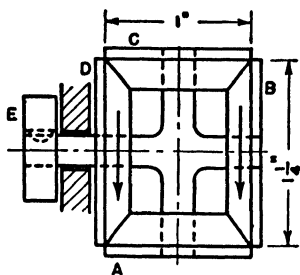

Fig. P 11.19
11.19. The mechanism shown in Fig. P 11.19 is similar to that of Fig. 8.9. Cone *B* turns 10 times and cone *D* turns 4 times. Determine the number and directions of the turns of *E*.